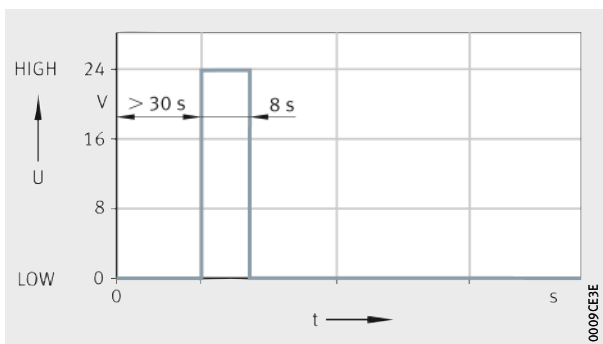

Figure 45
- Control of pump body 4, *Figure 45:*